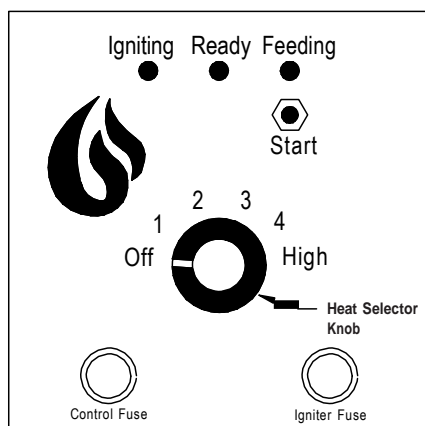

Figure 42
1. Turn the heat selector knob (see *Figure 42*) to the heat level desired - 1 through high - and the ready light will turn green.